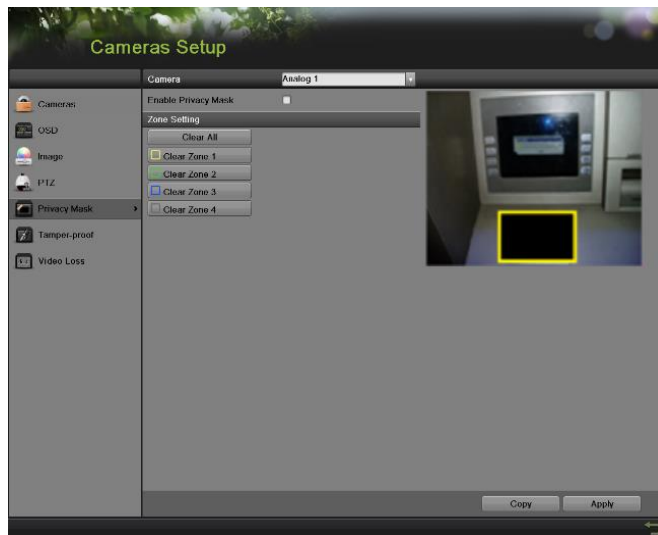

Figure 127 Privacy Mask Settings Menu
1. Enter the Privacy Mask menu, shown in Figure 127 by going to Menu > Cameras Setup > Privacy Mask.